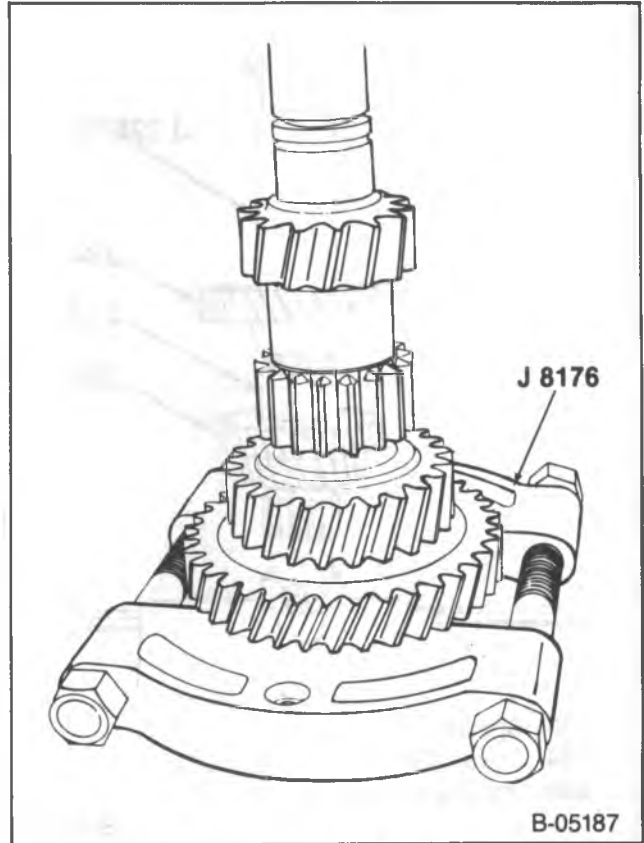

Figure 25—Installing the 3rd Speed Gear
1. 3rd speed gear (290) (figure 25).